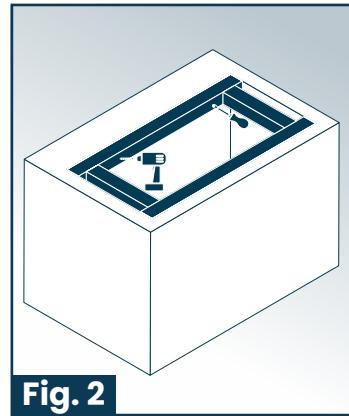

Fig. 2
2. Construct a wooden frame to support the sink. Measure your sink to determine the dimensions. (Fig. 1) (Fig. 2)